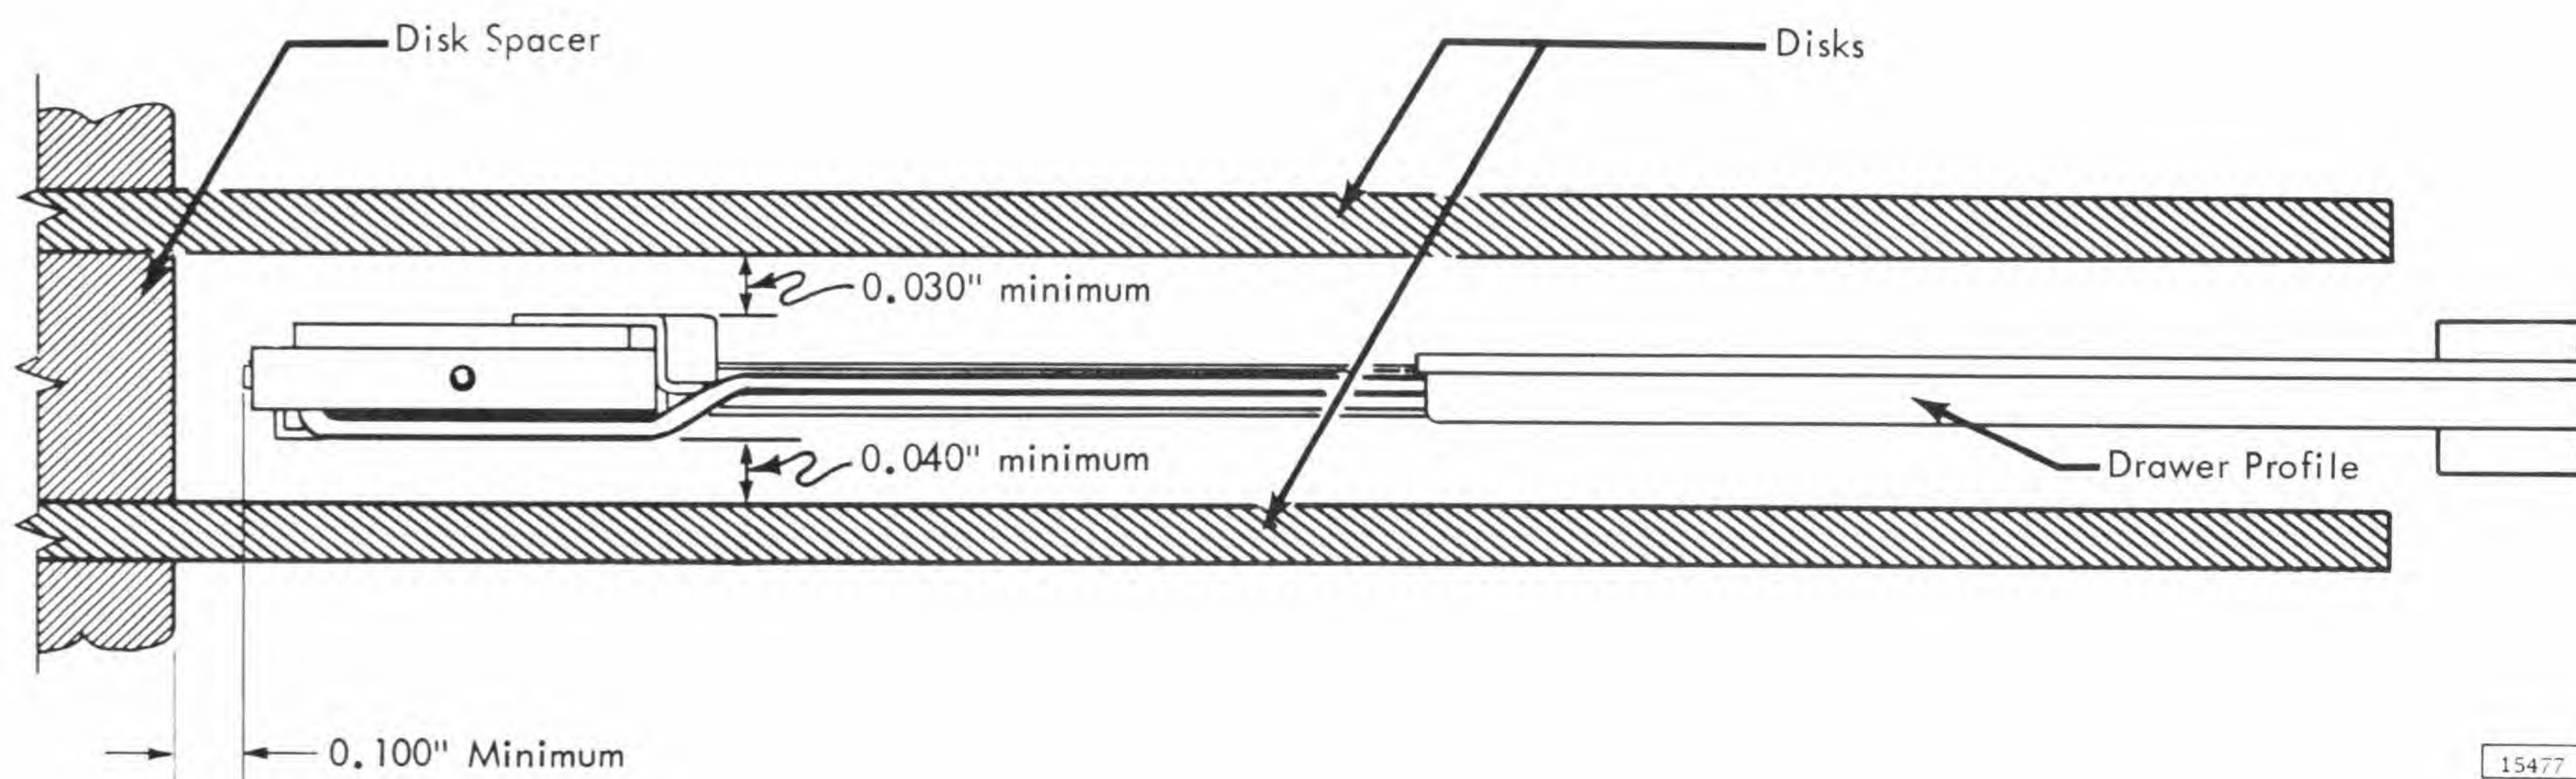
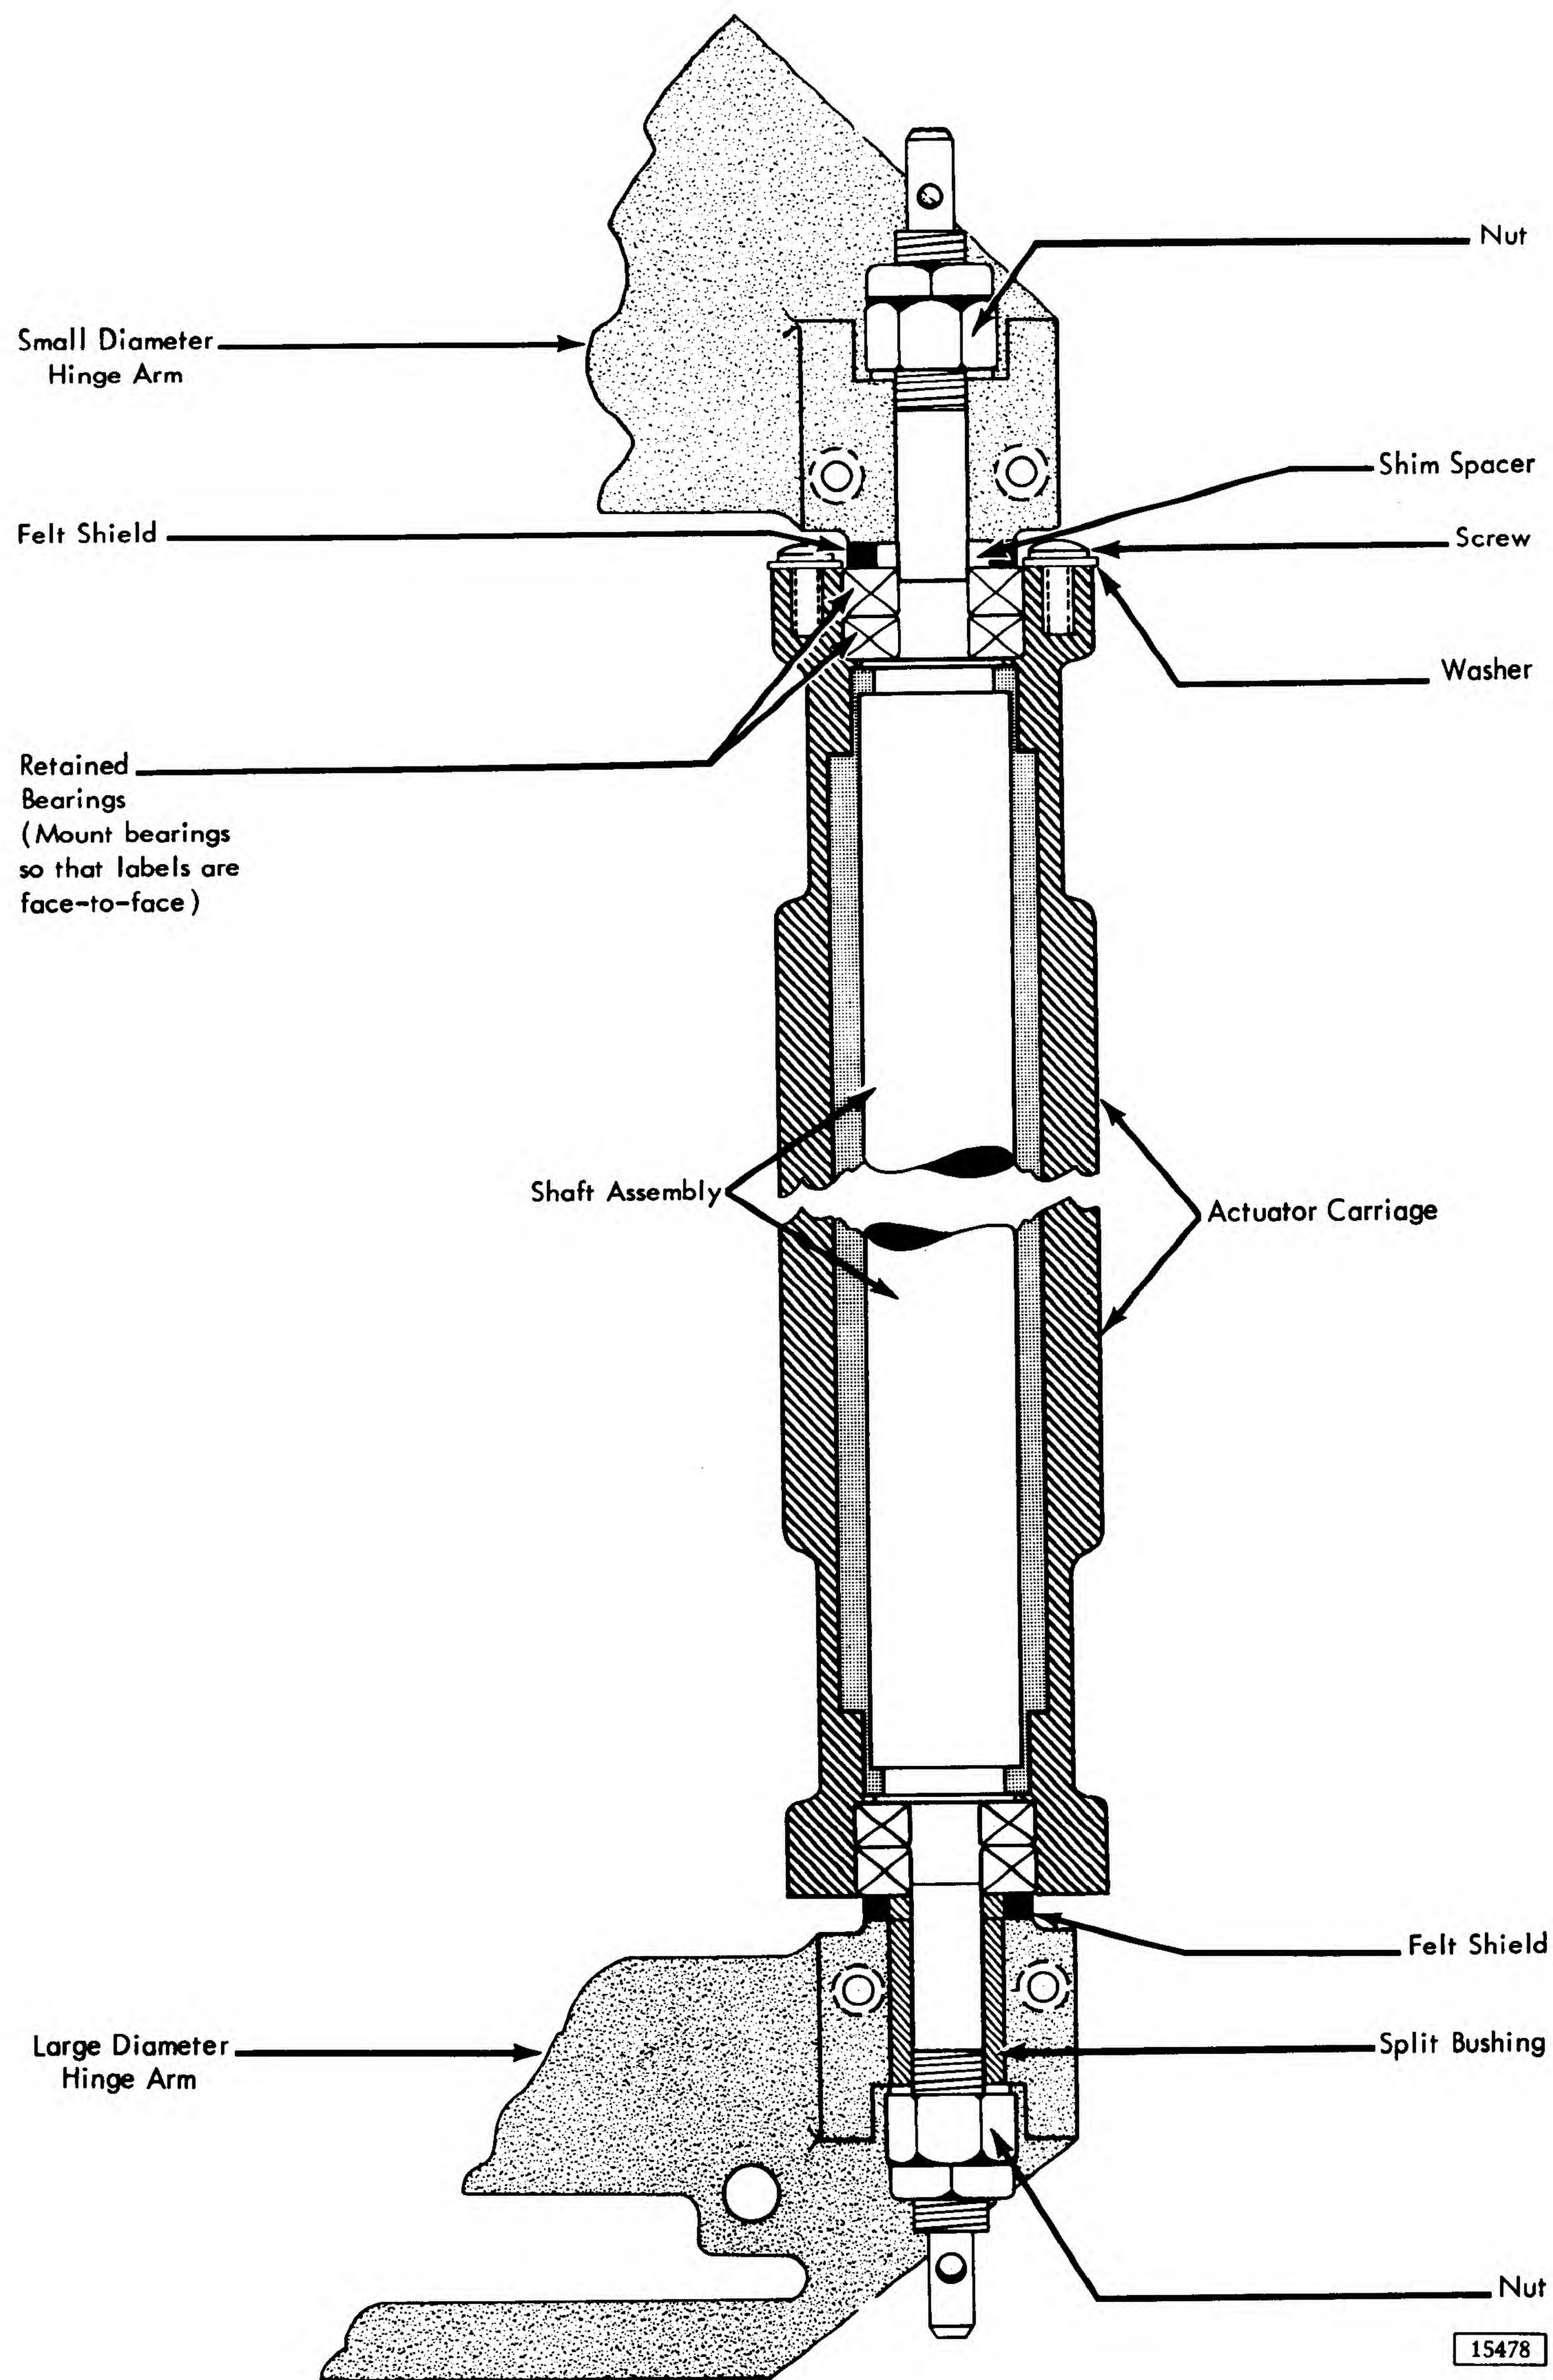

Figure 2-17. Drawer Assembly Profile
Figure 2-18. Hinge Shaft Assembly
- a. Move carriage to outer limit stop position and check clearance between each head-pair profile and the disk surfaces when the heads are unloaded. The distance between head and disk should be a minimum of .030" on top side of drawer profile and .040" on the bottom side (Figure 2-17). Profile should be checked throughout a complete disk revolution by rotating the disks manually. This same procedure should be followed with the carriage positioned against the inner limit stop. To adjust the receiver relative to the disks, add or subtract shims from shim spacers next to the small diameter hinge arm (Figure 2-18).